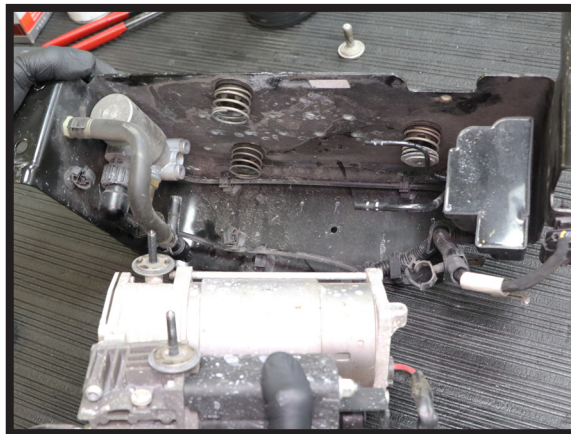

FIGURE 18
12. SEPARATE THE OLD COMPRESSOR FROM THE COMPRESSOR/VALVE BLOCK ASSEMBLY BRACKET. (FIGURE 18)